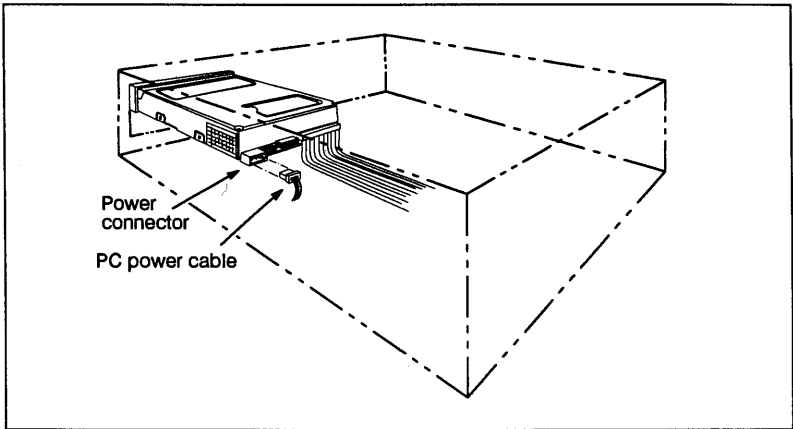

Figure 1-10. Connecting the Power Cable
- f. Connect the four-conductor DC internal power cable in your computer to the power connector on the drive. See Figure 1-10. If you need a power cable, see your distributor.